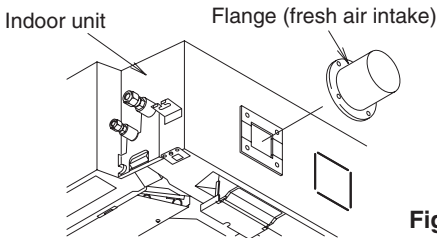

Fig. 2-327
- (4) Fasten the flange to the indoor unit supplied with the installation screws (x4). (Fig. 2-327)